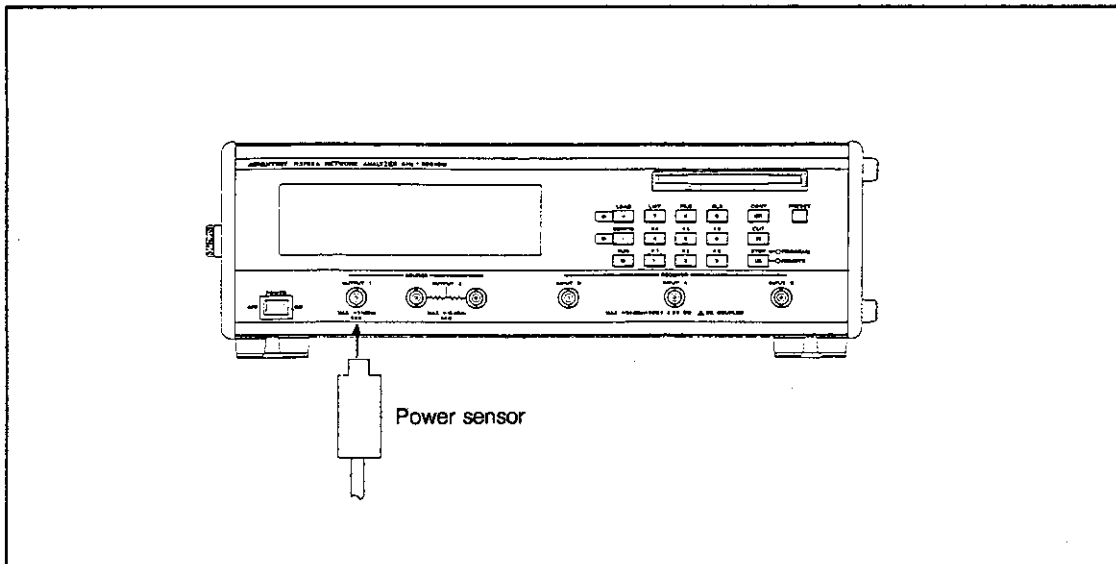

Figure 5-3 Measuring Output Level Linearity
- ③ Connect the power sensor to the output terminal. (See Figure 5-3.)